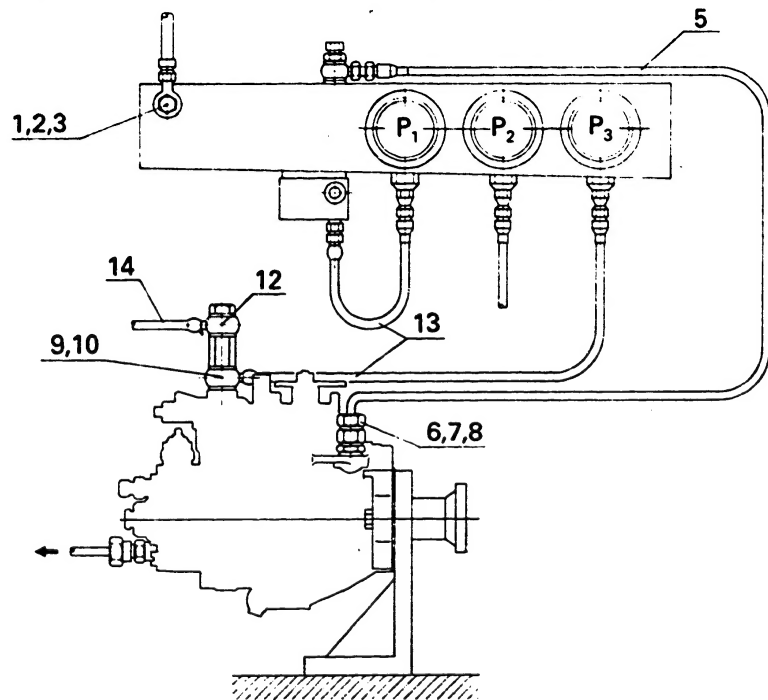

Fig. 3 Fuel and injection piping
2. Connect the fuel and injection pipes (refer to Fig. 3).